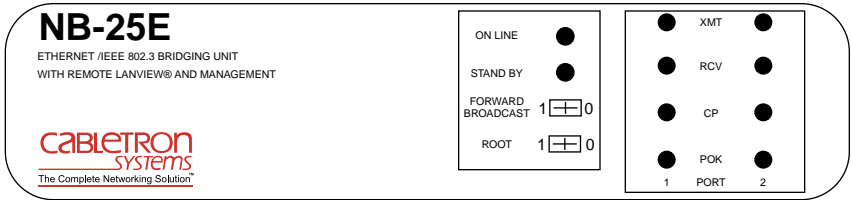

Figure 3-4 Bridge Front Panel
- If you want the bridge to pass Broadcast messages between segments, set the FORWARD BROADCAST switch (Fig. 3-4) to the On (I) position.
- If you want this bridge to receive priority over all other bridges on the network, set the ROOT switch (Fig. 3-4) to the On (I) position. Only ONE bridge on the network should have the ROOT switch enabled.